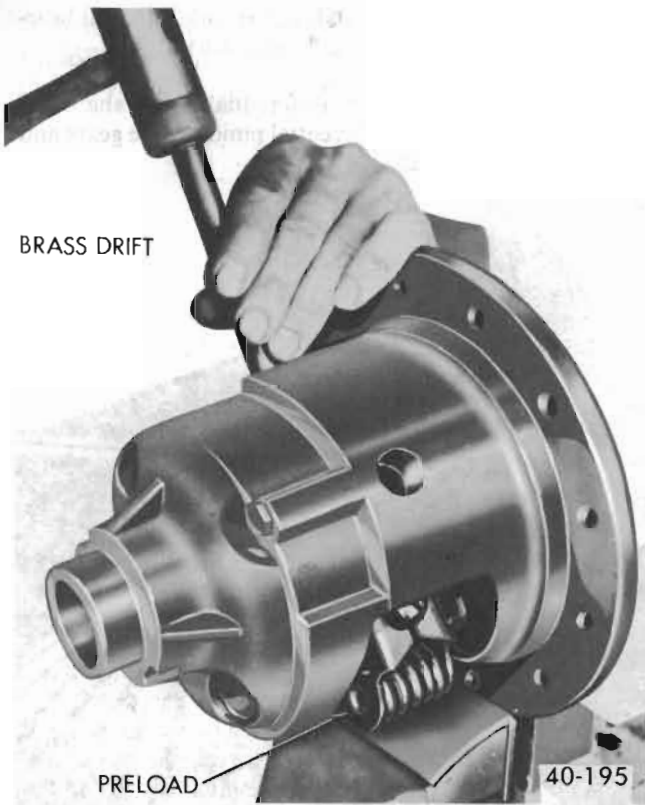

Figure 40-122 Removing Preload Thrust Blocks and Springs
1. Remove screw that retains differential pinion shaft and remove differential cross shaft. Remove preload spring thrust blocks and springs from the case. See Figure 40-122.